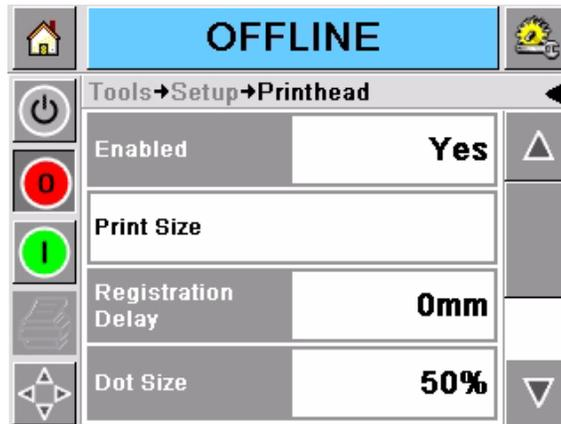

Figure 4-16: Print Size
- 2 Go to *Tools > Setup > Printhead*. Select *Print Size* (Figure 4-16 on page 4-17).